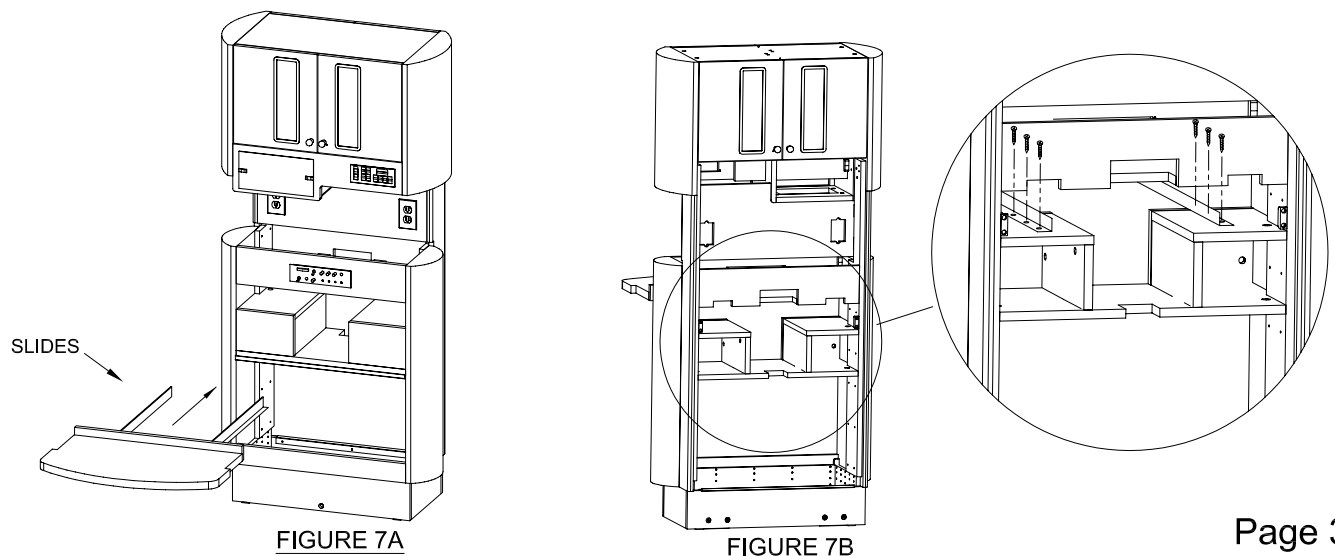

FIGURE 7A
Insert sliding top from the front with the slides extended. See Figure 7A. Have an assistant hold the unit in place and screw the slides in place using (6) #10 x 3/4" PH wood screws (3 on each slide). See Figure 7B